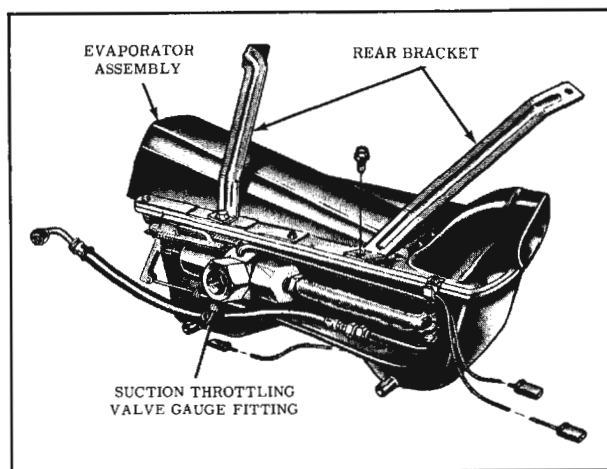

Fig. 15-138 Suction Throttling Valve Gauge Fitting
1. Remove Schrader valve fitting cap at suction throttling valve. (Fig. 15-138)